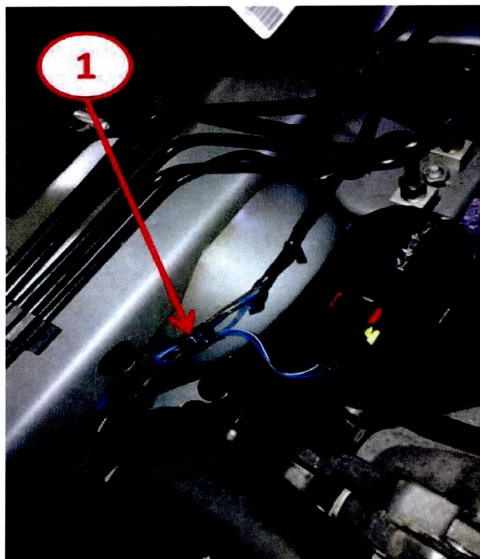

**Fig. 1 Purge Solenoid Wire Harness**
12. To ensure that the purge solenoid wiring harness (Fig. 1) does not come in contact with the heater hoses, the wire harness will require a slight modification.